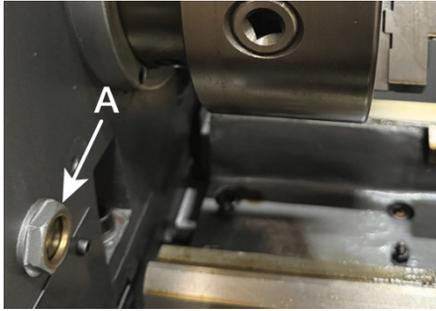
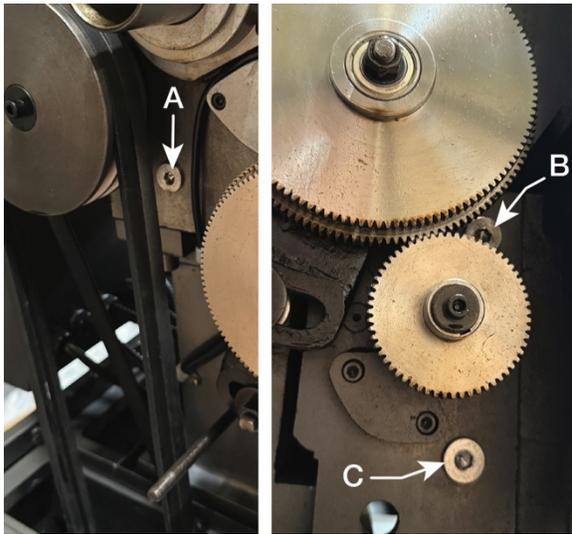
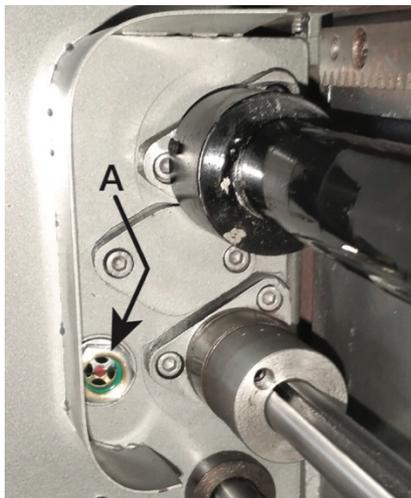

Figure 8-1: Headstock Oil Level Sight Glass
Figure 8-2
Figure 8-3
1. **Headstock** – The bearings of the headstock turn in an oil bath. Oil must reach three-quarters of oil level sight glass (see Figure 8-1). Top off with Mobil DTE® Oil Heavy Medium. Fill by removing headstock cover. Drain oil by removing drain plug (A, Figure 8-2). Check oil level regularly. Make the first oil change after one month of operation. Clean out any metal shavings. Then, change oil in the headstock every two months.
2. **External Gears** - Coat all gears with a heavy, non-slinging grease, see Figure 8-2.
3. **Gear Shaft** - Remove the set screw (C, Figure 8-2) and oil with a couple drops of Mobil DTE® Oil Heavy Medium once weekly.
4. **Gearbox** - Oil must be up to indicator mark in oil level sight glass (A, Figure 8-3). Remove the oil filling plug (B, Figure 8-2). Top off with Mobil DTE® Oil Heavy Medium. Drain oil by
removing drain plug (C, Figure 8-2). Make the first oil change after operating three months. Then, change oil in the gearbox every six months.